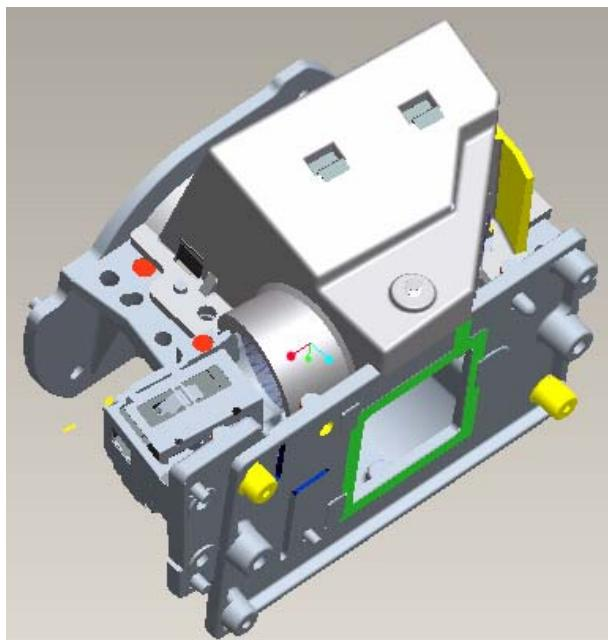

Fig. 7-2
7.2 Assemble "HSG ILL Module" to HSG DMD and cover over on "AL" (Fig. 7-2)